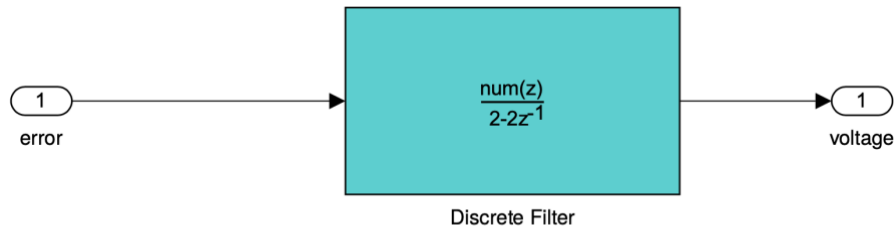

Figure 1.16: Change the PID controller subsystem to make it discrete. Take the sample-time from the workspace variable T_{sample} initialized to 0.1 seconds.
4. Now change the PID controller subsystem of one of the two controllers to that shown in Fig. 1.16. You will need the block Discrete/Discrete-Filter from the SLB. Double-click the block and specify the discrete transfer-function. Enter the numerator and denominator of $G(z)$ from (1.44) in the expected format. In the field "Sample Time" enter T_{sample} .